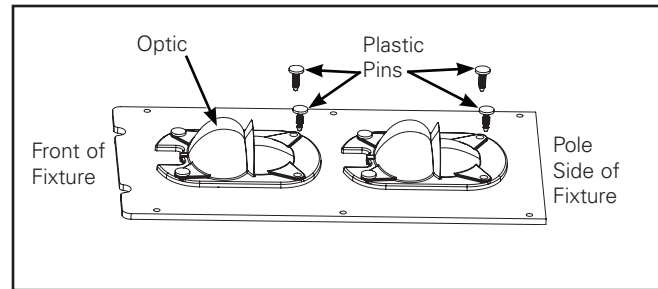
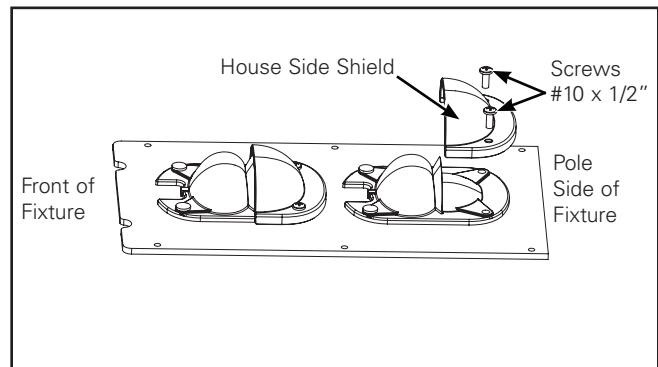

Figure 9.
Figure 10.
### House Side Shield (Figure 9. and Figure 10.)
1. Remove plastic push pins on back side of optic. (Figure 9.)
**Note:** House side shield must ONLY be installed on the back side of the optics as shown in. DO NOT install on the other side of the optic. (Figure 10.)